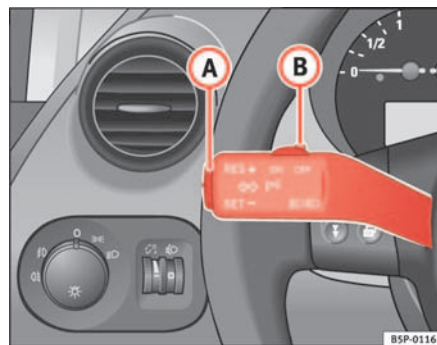

Fig. 142 Turn signal and main beam lever: switch and rocker switch for CCS
- Press the upper part of the rocker switch **RES** ⇒ fig. 142 **A** to increase the speed. The vehicle will continue to accelerate for as long as you keep the rocker switch pressed. When you release the switch, the new speed is stored.
Control of the set speed is switched off if you reduce speed by depressing the brake pedal. You can reactivate the control by pressing once on the upper part of the rocker switch **RES+** ⇒ page 170, fig. 142 **A**.